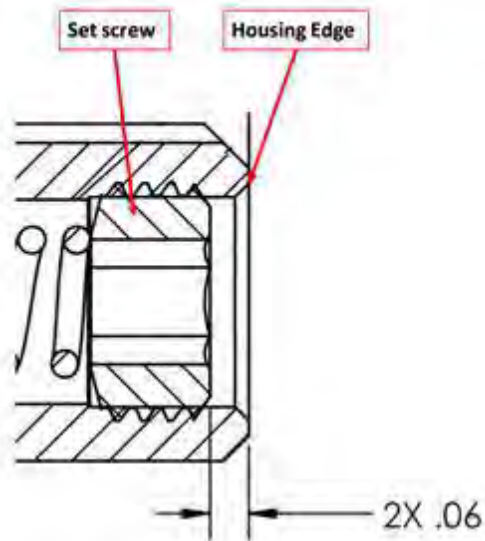

FIGURE 18-14
5. Install the set screw so that the spring is compressed against the ball and the head of the screw is set to a depth of $.06 \pm .01$ below flush (see Figure 18-14).